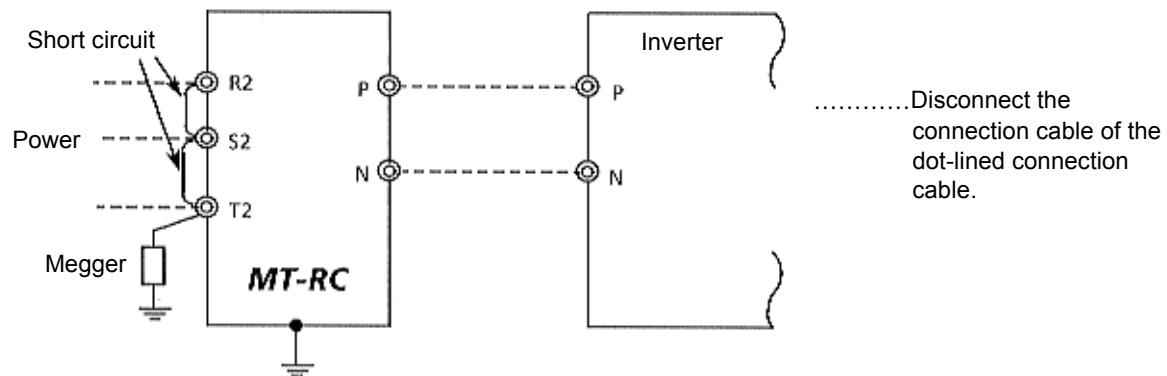

Fig. 4 Megger test procedure
(3) Megger test procedure
- Take the megger test of the power regenerative converter itself, keeping the terminal block of the main circuit short-circuited with the procedure in Fig. 4. Here, don't take the megger test of the control circuit.